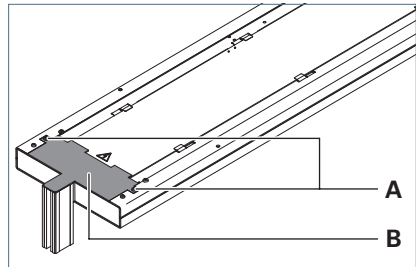

Fig. 12: Removing the cover
- Unscrew the screw **A** from the cover **B**, see Fig. 12.